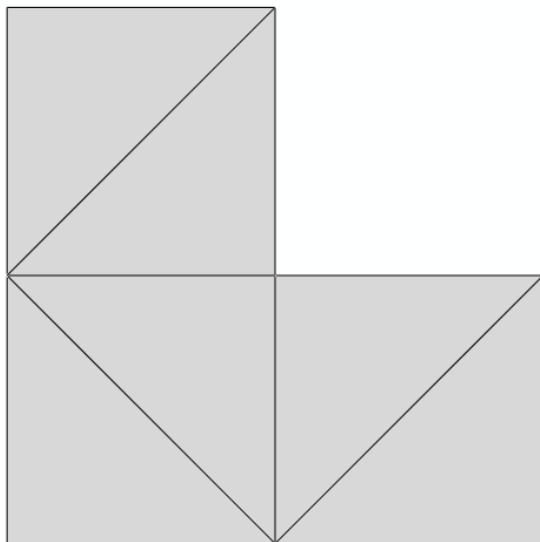

Figure 1: Part having sections for assigning different property
2. Assign property to part after creating sections in part (fig. 1)